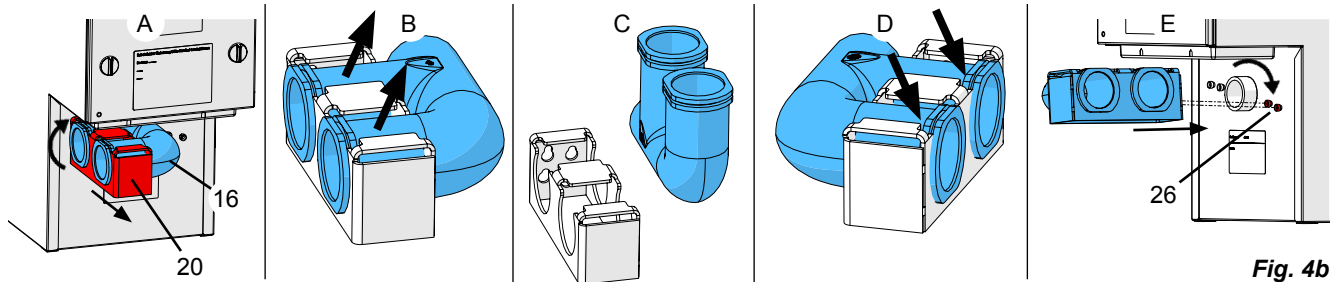

Fig. 4b
⇒ Push the suction pipe (16) onto the suction support on the extractor and hang the holder (20) onto the holder screws (26, Fig. 4b).